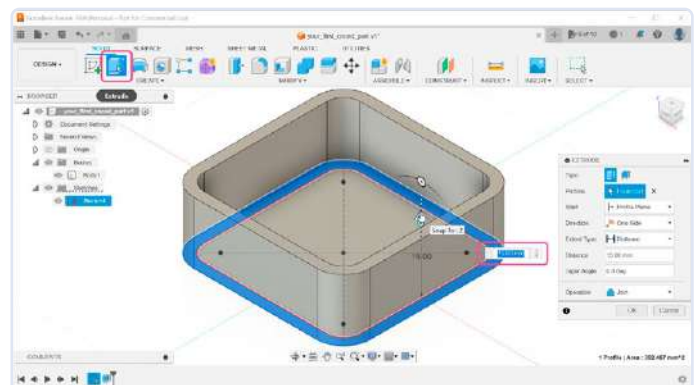

Figure 8: Setting the enclosure's height.
8) We wanted to extrude the walls, but they suddenly disappeared. Don't worry; it's just the sketch that's hidden. In the browser in the top-left corner (Figure 8), open the *Sketches* group and make *Sketch1* visible. Now you can select the *Extrude* tool from the toolbar and click the outer rounded rectangle. Enter the distance of 15 mm, which will be the height of our enclosure.